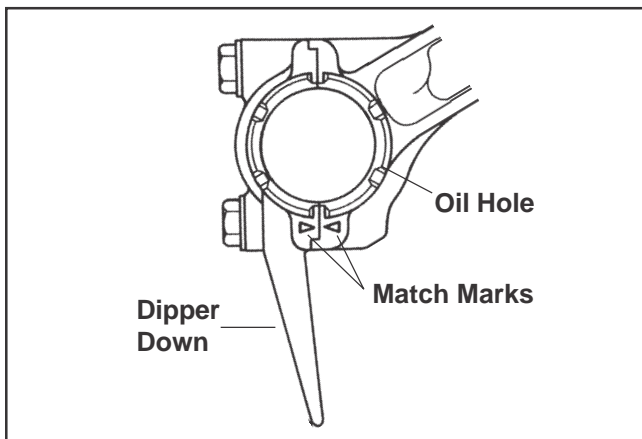

Figure 11-11. Connecting Rod Details.
- The connecting rod offset is down and oil hole is in the 3 o'clock position. Match marks should align as shown with dipper down. See Figure 11-11.